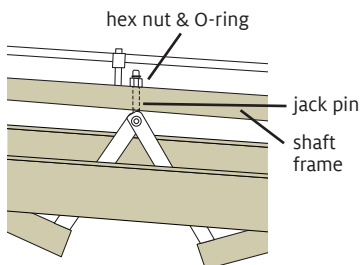

FIGURE 5: JACK PIN ATTACHMENT
10. Remove the shafts from the loom by removing the rubber O-rings and unscrewing the small hex nuts from the jack pins (Figure 5). Pull the shaft straight up and out of the loom.